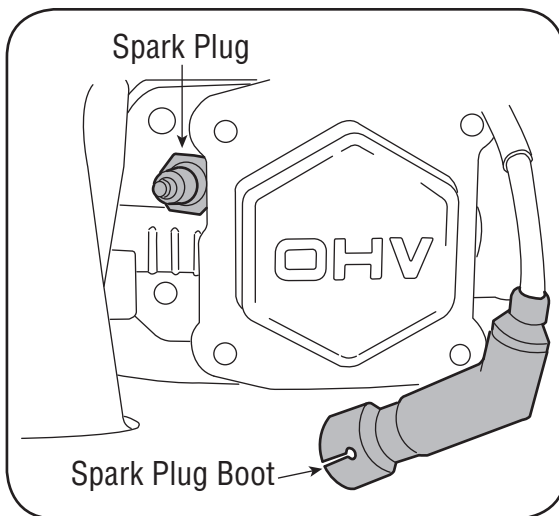

Figure 10-3: The spark plug and boot.
1. Remove the spark plug boot and use a spark plug wrench to remove the plug, Figure 10-3.